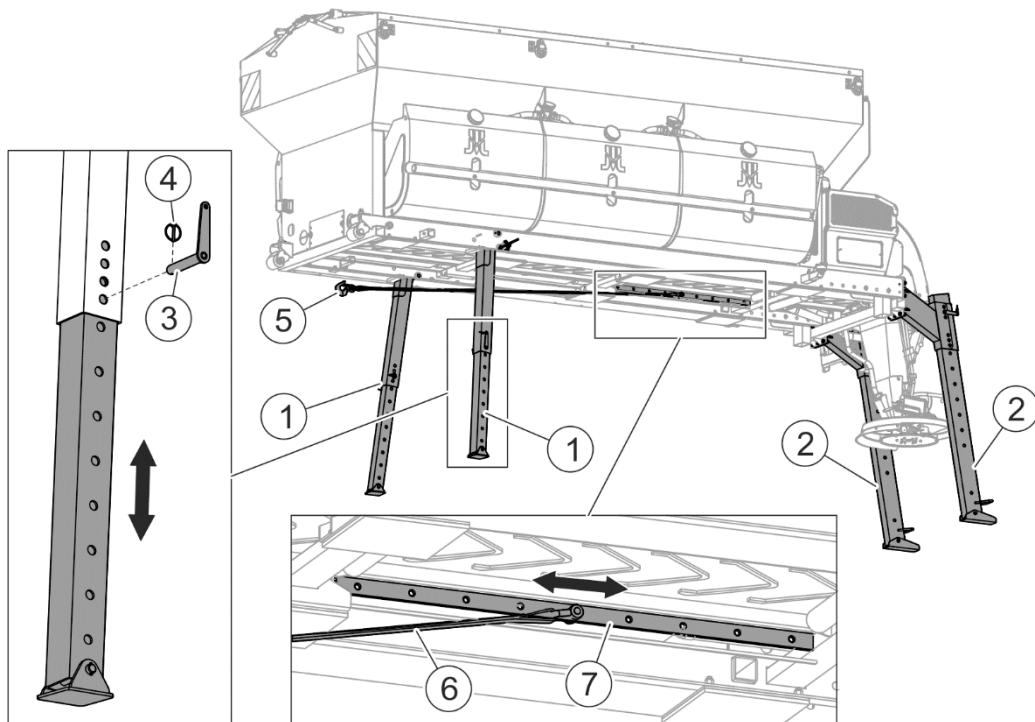

FIGURE 4.1 Parking stands
(1) - front parking stand; (2) - rear parking stand; (3) - pin, (4) - cotter pin, (5) - hook, (6) - belt sling, (7) - mounting
The spreader is equipped with parking stands (FIGURE 4.1). The height of parking stands should be adapted to the height of the carrying vehicle's load platform. Lock the parking stands in their positions using pins (3) and secure with cotter pins (4).
- Set the fixing point and attach the belt sling (6) ended with a hook (5) to a fixed and sufficiently strong element of the carrying vehicle (e.g. rear hitch) in order to prevent the machine from sliding off the platform (FIGURE 4.1).